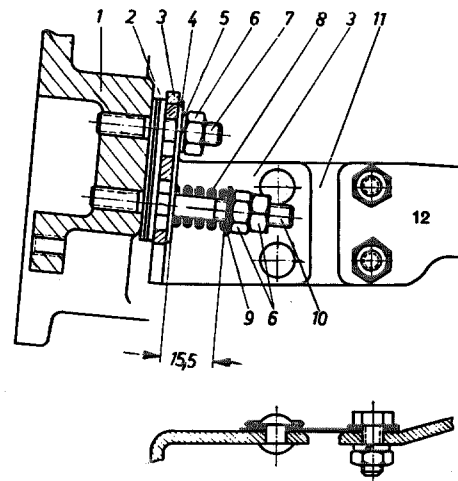

Fig. 29 — 5/4
13. Then clamp down the lever on the clutch pedal shaft by means of the clamp screw (20).
14. Install the rear rubber sleeve (3) and the fitted washer (4) on the clutch pedal shaft (see Fig. 29 — 5/3).
15. Install the ball (6) and needle bearing (5) in grease in the swivel support (7) and slide the swivel support onto the clutch pedal shaft (see Fig. 29 — 5/3).
16. Install the spacer ring (8) and the snap ring (9) (see Fig. 29 — 5/3).
17. After installing the transmission (see Job No. 26 — 1), screw the swivel support (12) to the spring plate (11) by means of the two hexagon screws (Fig. 29 — 5/4).
The shaft is centered horizontally by removing or adding shims (2) where the swivel support is fastened to the clutch housing (Fig. 29 — 5/4).